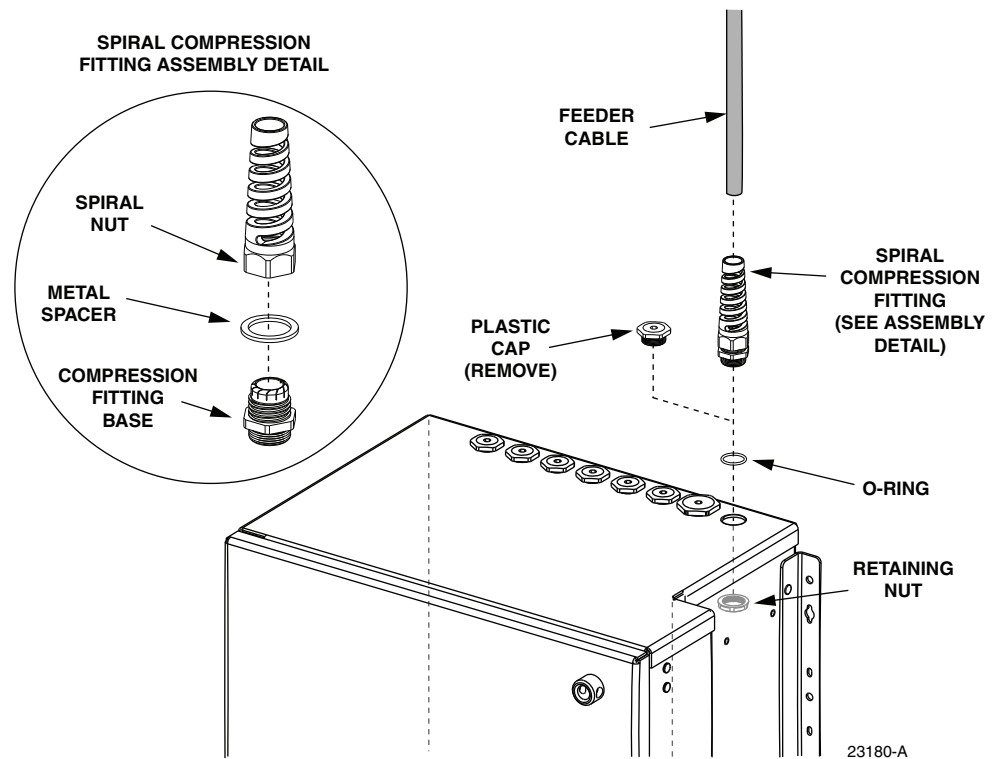

Figure 17. Plastic Cap Removal and Compression Fitting Installation
3. Remove the plastic cap and retaining nut from the feeder cable entry/exit hole as shown in Figure 17. Save the retaining nut for reuse.
4. Locate the spiral compression fitting that is shipped with the cabinet and loosely assemble the compression fitting components (see Figure 17).